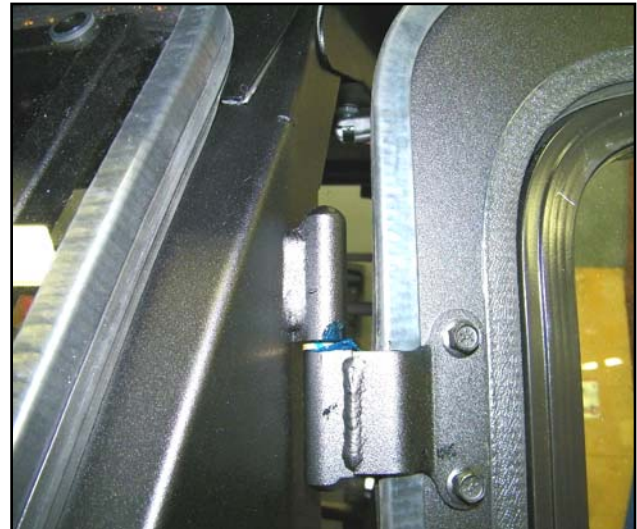

Fig. 11.4 Assembled Hinge
**11.4** Per figure 11.4, install a brass washer to the lower hinge of the driver's side A-Pillar. Place the driver side door onto the lower hinge of the driver side A-Pillar. Latch the door, then install a brass washer and the left upper hinge sleeve to the A-Pillar. Then bolt the left hinge sleeve to the door. Wipe away any excess grease from the hinges.